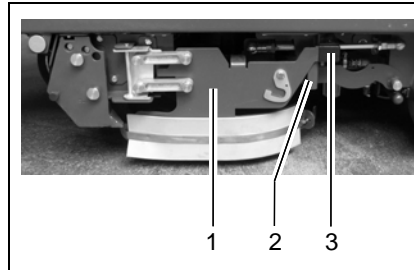

Fig. 5
1. Open the deflector (Fig. 5/1): take hold of the grip (Fig. 5/3), raise the deflector (Fig. 5/1), pivot it forwards and outwards and lower it (service position).
7. Close the deflector (Fig. 5/1): take hold of the grip (Fig. 5/3), raise the deflector (Fig. 5/1), pivot towards the vehicle and lower it into the deflector lock (Fig. 5/2). The deflector (Fig. 5/1) is now in its working position.